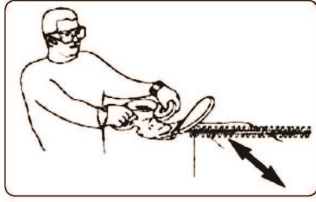

FIG. 14
**LEVEL HEDGES** - To obtain exceptionally level hedges, a piece of string can be stretched along the length of the hedge as a guide. (Fig. 14)